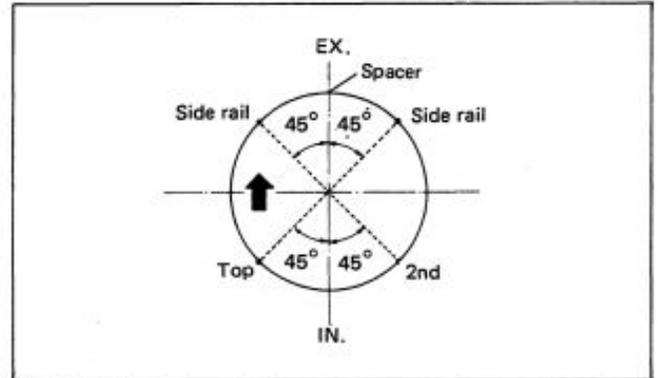

Fig. 2-150
2. Have the ring gaps set as shown in Fig. 2-150 on No. 2 and No. 3 pistons, and then install piston ring compressor (special tool) in the indicated manner. Some light resistance must be overcome to lower the cylinder block.